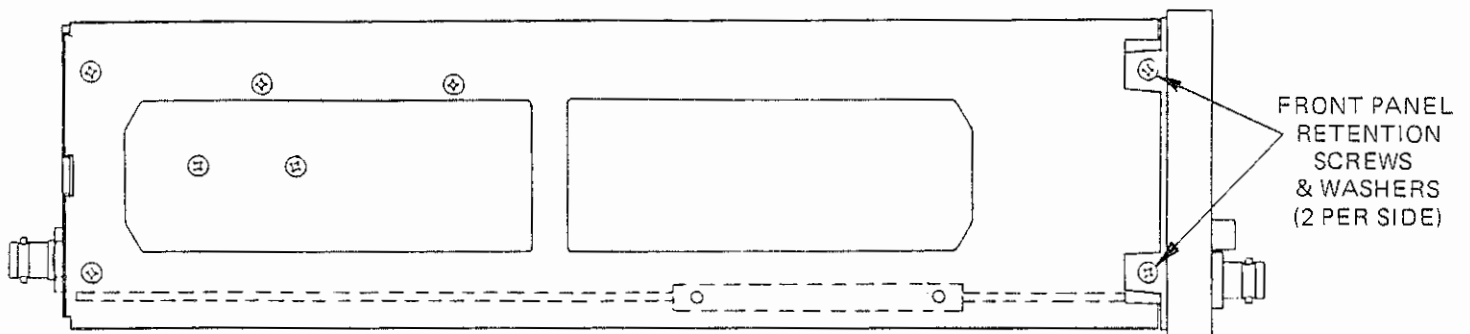

**Figure 6.5A - Channel A and B Clamping Collars**
- b. Remove the clamping collars from the channel A and B inputs. Use the special spanner available from Racal-Dana (P/N R-14-1586) and turn counterclockwise. Refer to Figures 6.5A and 6.5B for this step